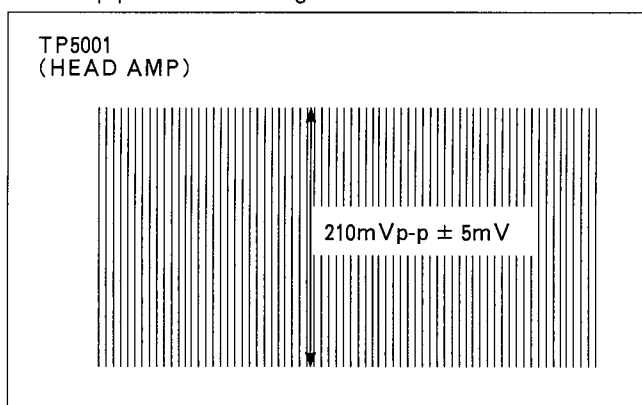

Figure E55
3. Adjust VR41007 so that the level becomes 210mVp-p \pm 5mVp-p as shown in Figure E55.